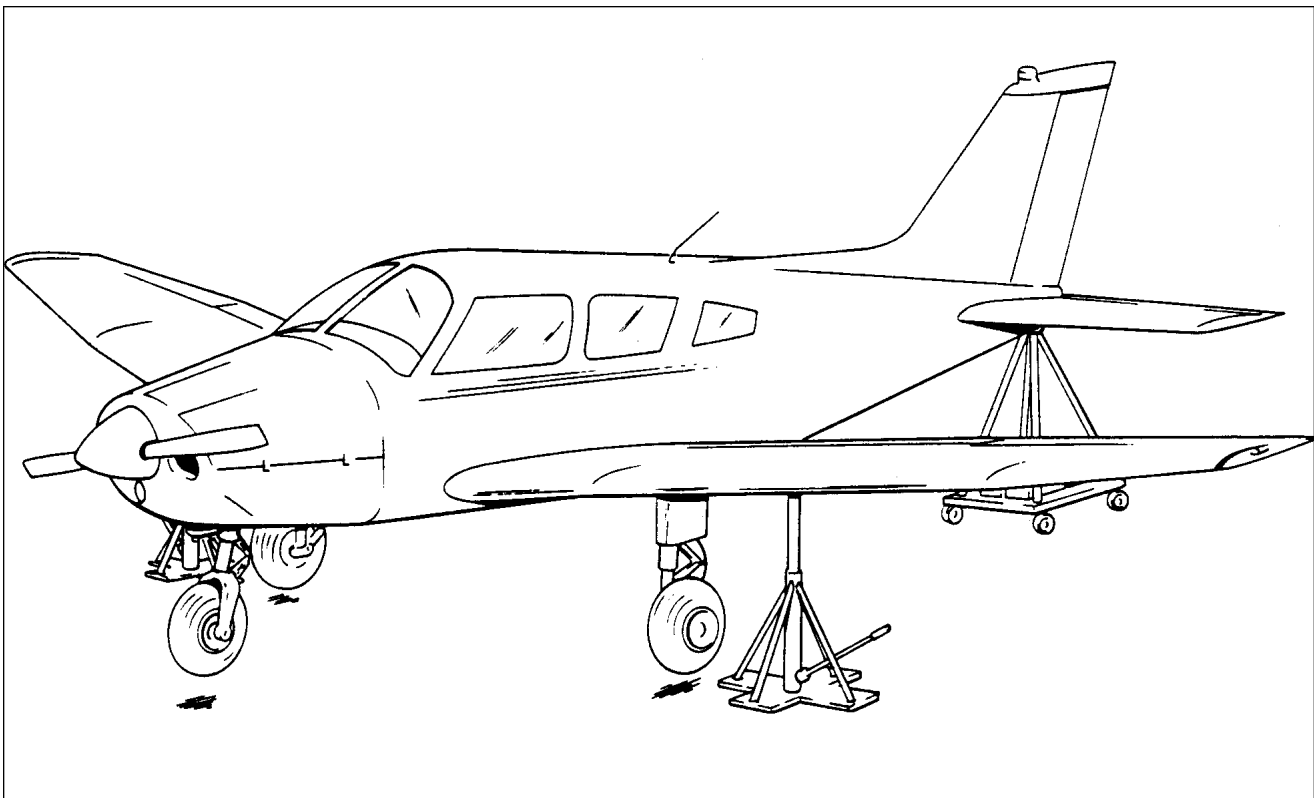

Figure 2-4. Jacking Arrangement
2-12. JACKING: Jacking the airplane is necessary to service the landing gear and to perform other service operations. Proceed as follows: (Refer to Figure 2-4.)
- To longitudinally level the airplane, partially withdraw the two leveling screws located immediately below the left front side window. (Refer to Figure 2-4.) Place a level on these screw heads and adjust the jacks until the level is centered. Should the airplane be either on scales or on the floor, first block the main gear oleos to full extension; then deflate the nose wheel until the proper position is reached.